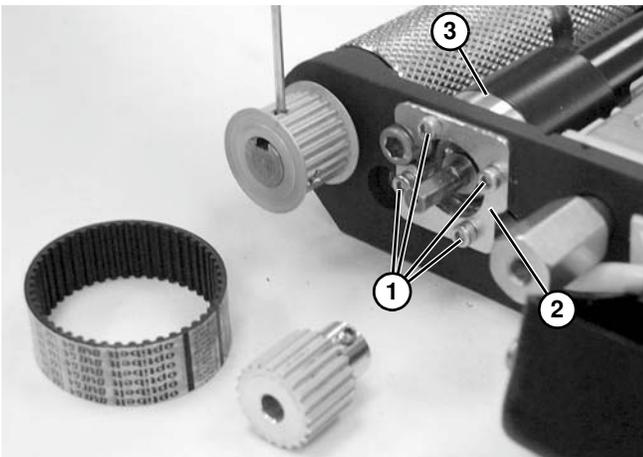

Figure 129
- Remove four clamp plate screws (Figure 129, item 1) and clamp plate (Figure 129, item 2).
- Remove and replace motor (Figure 129, item 3).